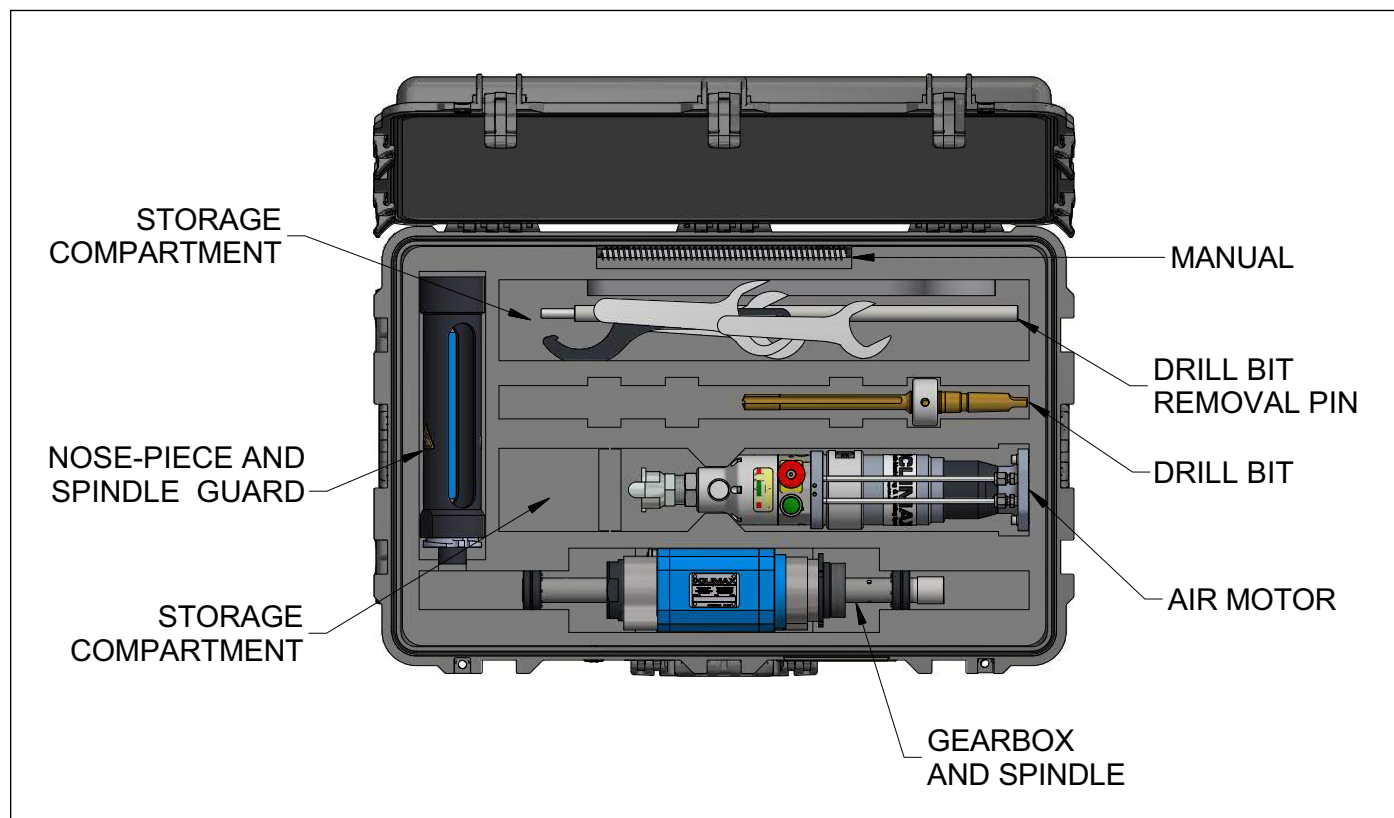

FIGURE 6-1. PD3000 CASE LAYOUT
The PD3000 Portable Drill can be stored and shipped in the provided Pelican shipping container (Figure 6-1). Short-term storage is defined as less than three months.
4. Place the components in the storage case as shown in Figure 6-1.
The required storage conditions are listed in Table Figure 6-1.